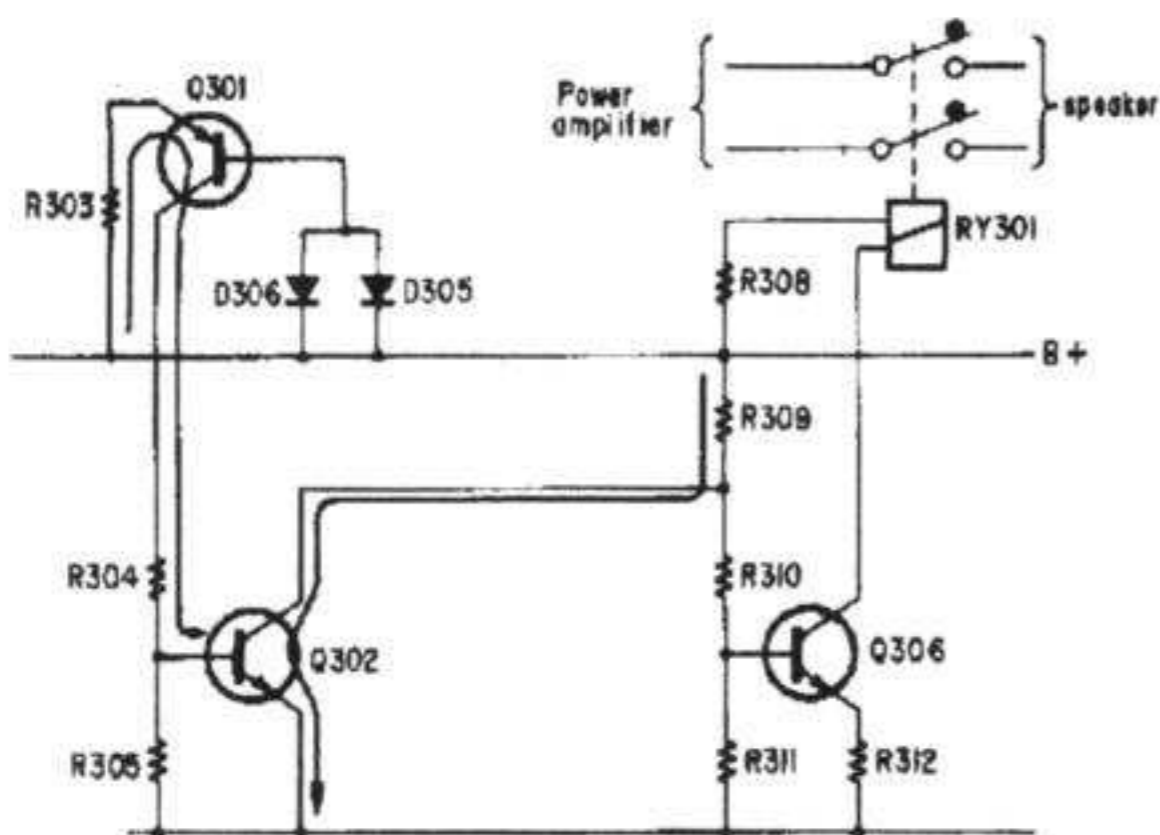
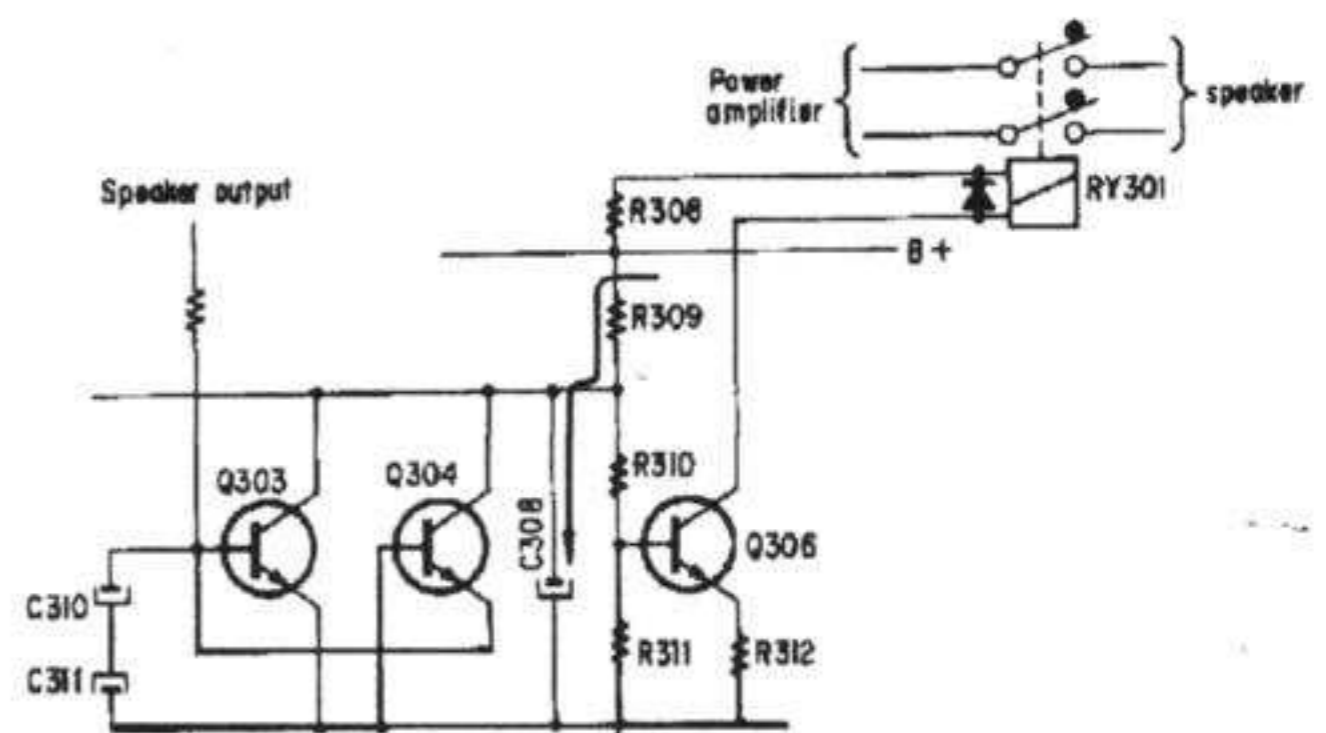

Fig. 1-1.
Fig. 1-2.
2. Speaker Protection Circuit (See Fig. 1-1 and Fig. 1-2)
- When the positive dc component presents at the speaker output terminal, C310 is charged up as shown in Fig. 1-2. Q303 turns on, Q306 turns off and the relay RY301 is not activated (4304 remains in off condition). Also, when the negative dc component presents, C3 11 is charged up. This turns 9304 on, Q306 off and RY301 is not activated (9303 remains in off condition).